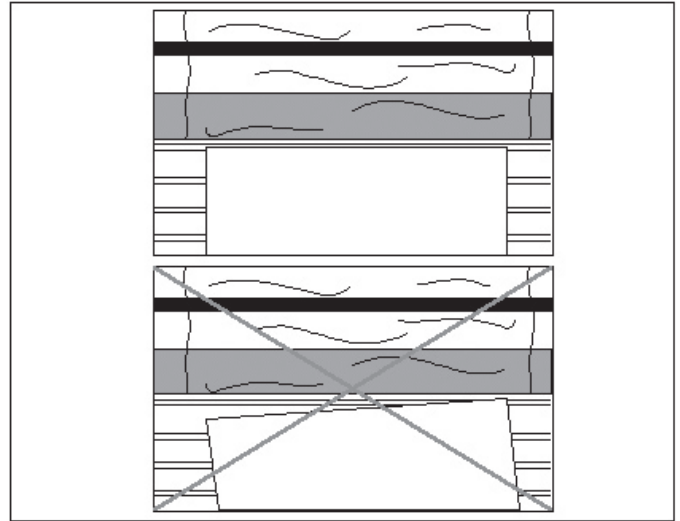

Fig 31
8. Align the leading edge of the item square to the heat roller nip (Figure 31).